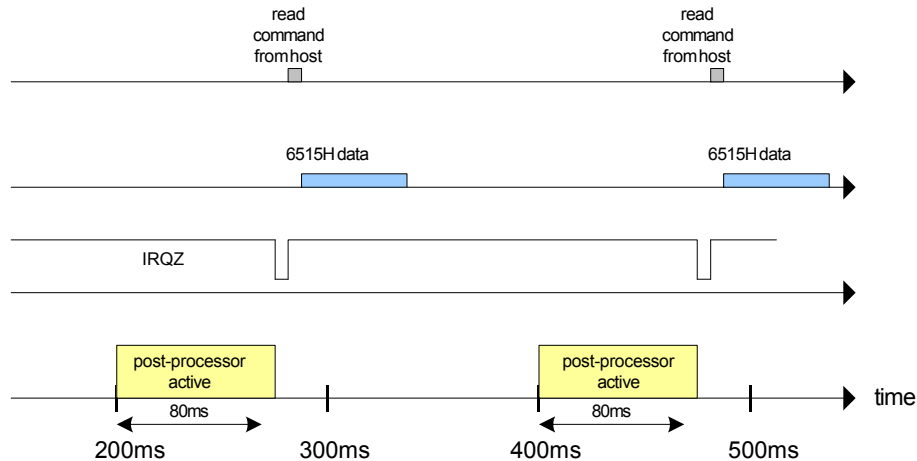

Figure 20: Timing Diagram (Using IRQZ, *SUM_CYCLES* = 12)
The four-wire three-phase delta configuration is shown in Figure 20. In this case, the center tap of the transformer that provides the A-C voltage is grounded. the grounded wire is connected to V3P3A. For this configuration, equation 2 must be selected. For this configuration, equation 3 must be selected, i.e. $P = V_A \cdot (I_A - I_B) / 2 + V_C \cdot I_C$.
- 1) Synchronization using the IRQZ pin of the 71M6515H (interrupt or DIO pin polling method, see Figure 20):